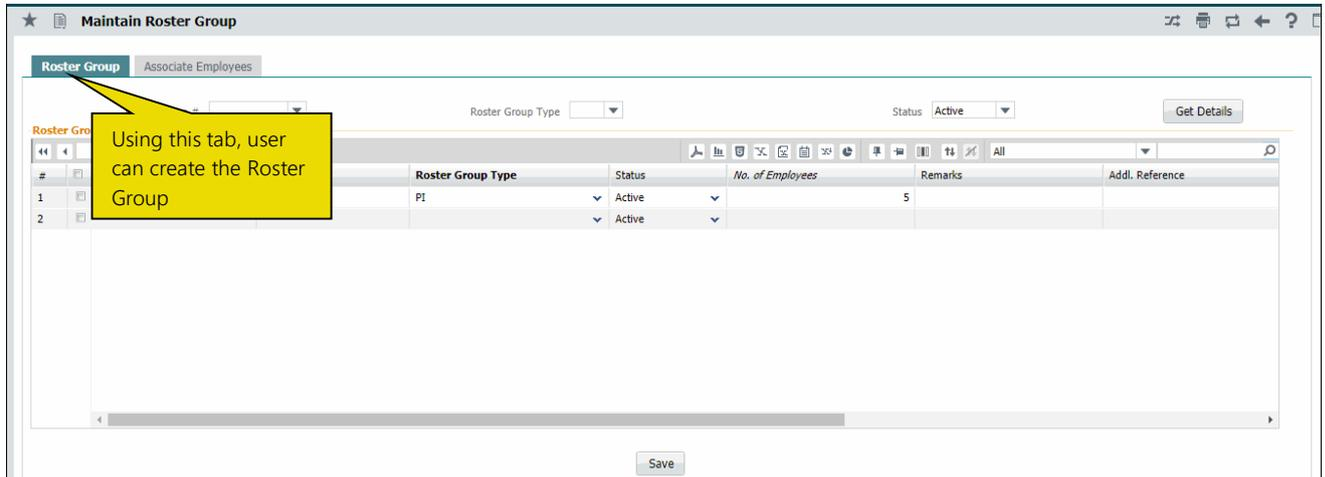

Figure 2.7 Maintaining Roster Group
1. Select **Maintain Roster Group** under **Roster Management** business component. The **Maintain Roster Group** page appears. See *Figure 2.7*.